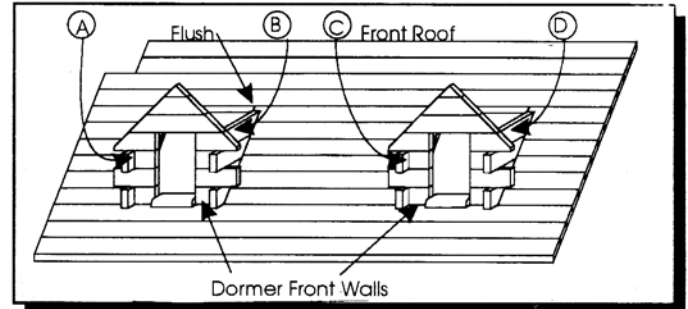

Figure 19- Dormers to Front Roof
a. Interlock and glue the corners that were trimmed off of the side walls (A,B,C,and D) with the Dormer Walls. Glue these assemblies to the Front Roof with the insides of the side walls flush with the openings. See Figure 19.